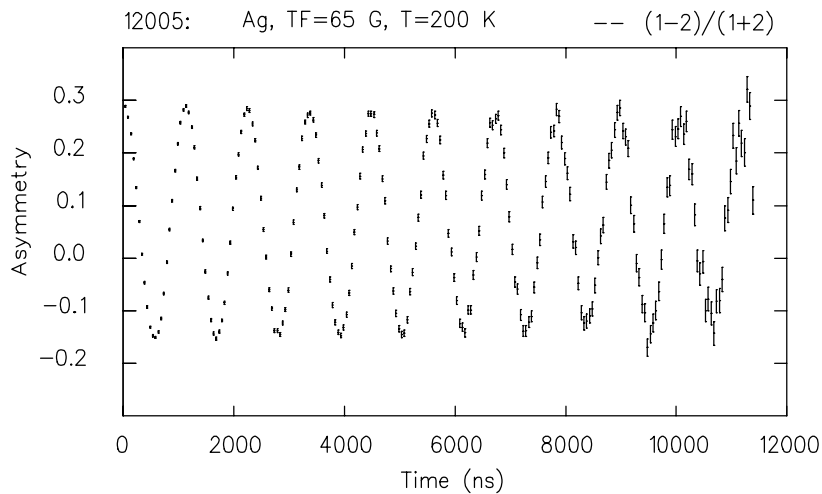

Figure 4.5: Output of the ASY macro  $A(t) = [1-2] / [1+2]$ , for  $\text{JHST}=\{1,2\}$ .
**ASY** This command is like **RAW** [in  $N(t)$  mode] except that it displays  $A(t) \equiv [F(t)-B(t)] / [F(t)+B(t)]$  for each *pair* of Histograms  $F(t)$  and  $B(t)$ , which first are aligned to a common  $t = 0$  and background-subtracted, Fig 4.5. As in **RAW**, no more than 256 packed bins will be displayed; but here  $\text{NPAC}=0$  will always be treated as in the  $N(t)$  mode of **RAW**.